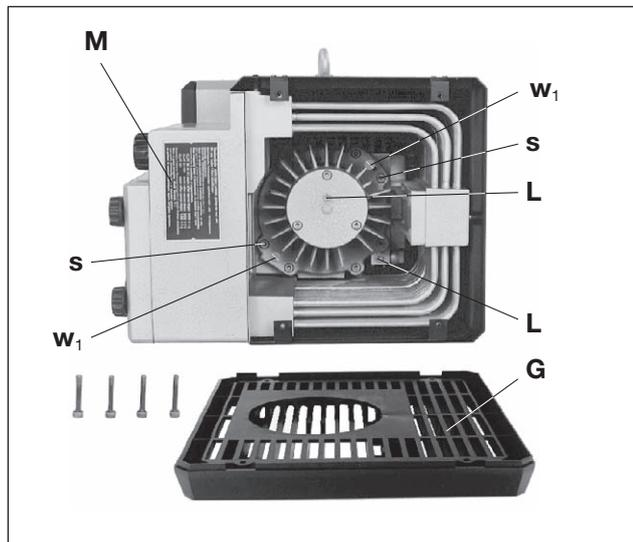
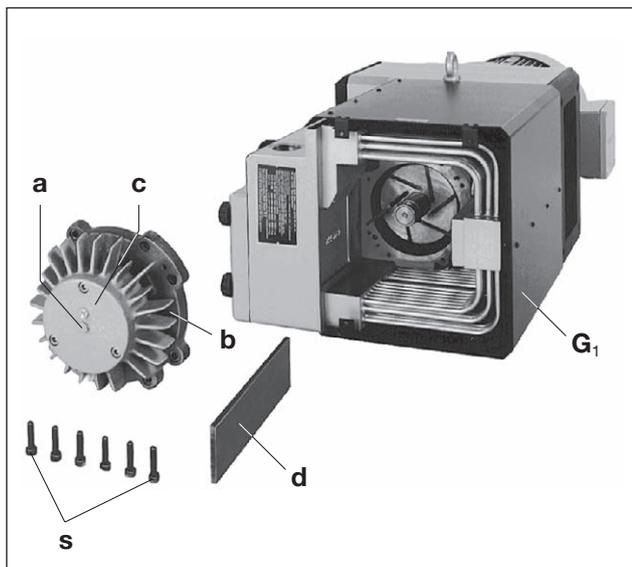
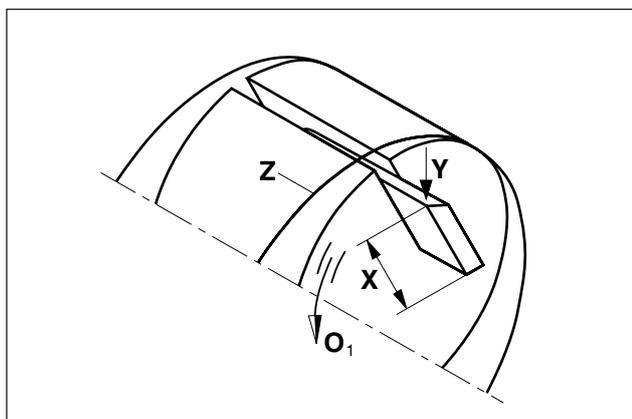

Fig. 4 Lubrication/ Blades
Fig. 5 Lubrication/ Blades
Fig. 6 Blades
| monthly | Clean the regulating valves and ventilation slots on the machine and the motor cooling ribs. If there is a great deal of dust in the spaces on the cooling ribs and cooling pipes after removing the inlet grating (Fig. 2/G) and the protective cover (Fig. 5/G1) clean by blowing through. | — |
The bearings must be greased at the 2 greasing points (Fig. 4/L) with 6 g per point, after the following recommended operating hours or at the latest one year operation:
To lubricate the inlet grating (Fig. 4/G) must be unscrewed.
We recommend the following brands of grease: KlüberPetamoGY193 or other equivalent greases (see also grease recommendation plate (Fig. 4/M)).
First check after 4,000 operating hours and then every 1,000 operating hours or, depending on the height (Fig. 5/X) earlier.
Remove inlet grating (Fig. 4/G). To remove the end cover (Fig. 5/b) from the housing, the bolt (Fig. 5/a) located in the centre of the bearing cover (Fig. 5/c) should be removed. To achieve this one of the fixing bolts (Fig. 5/s) from the housing cover should be screwed into the thread in the centre of the bearing cover. Remove the blades (Fig. 5/d) to be checked. All blades on the machine must have a minimum height (Fig. 6/X) of more than 38 mm.
Do not undo the **slotted nuts** (Fig. 4/w₁) on the housing lid (Fig. 5/b). Only the screws (Fig. 4/s) need to be removed to change the blades.
Before refitting the blades clean out the housing and the rotor slots with compressed air. Place the blades, with the radius outwards (Fig. 6/Y), such that the bevel is in the direction of rotation (Fig. 6/O₁) and corresponds with the radius of the housing (Fig. 6/Z).
Before refitting the end cover (Fig. 5/b) redistribute the grease from the bearing cover (Fig. 5/c) on to the appropriate bearing. It is important that the shaft end is completely clean so that no grease can enter the housing, this could mix together with carbon dust and give a viscous paste which would result in the blades becoming stuck in the rotor slots.
When re-fitting the end cover tighten the bolts evenly so that the end cover fits correctly onto the fixing pins. As soon as the cover is almost touching the housing, we recommend during further tightening of the bolts, the fan is moved in both directions. This can be achieved by taking the grill at the cooling air exit (F) away. This then ensures that the blades are sitting correctly in their slots and avoids any edge damage. Refit the suction grid (Fig. 4/G).